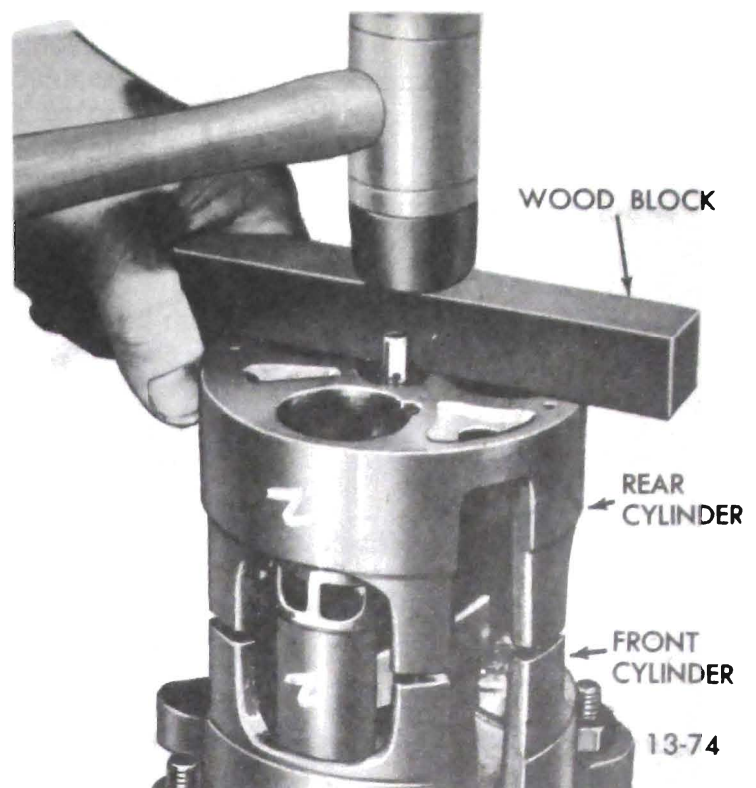

Figure 13-57 Assembling Rear Cylinder Half
9. Reassemble rear cylinder onto front cylinder using wood block and mallet (see Figure 13-57).